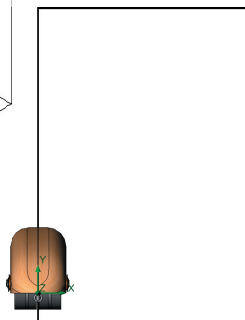

Fig. 13
Step 6. Click **Front**  on the Views toolbar. (Ctrl-1). Use Z key to zoom out to see domain, Fig. 13.
Step 7. **Only half the car** should be inside the domain as shown in Fig. 13. This will reduce the solver time which can take several minutes.